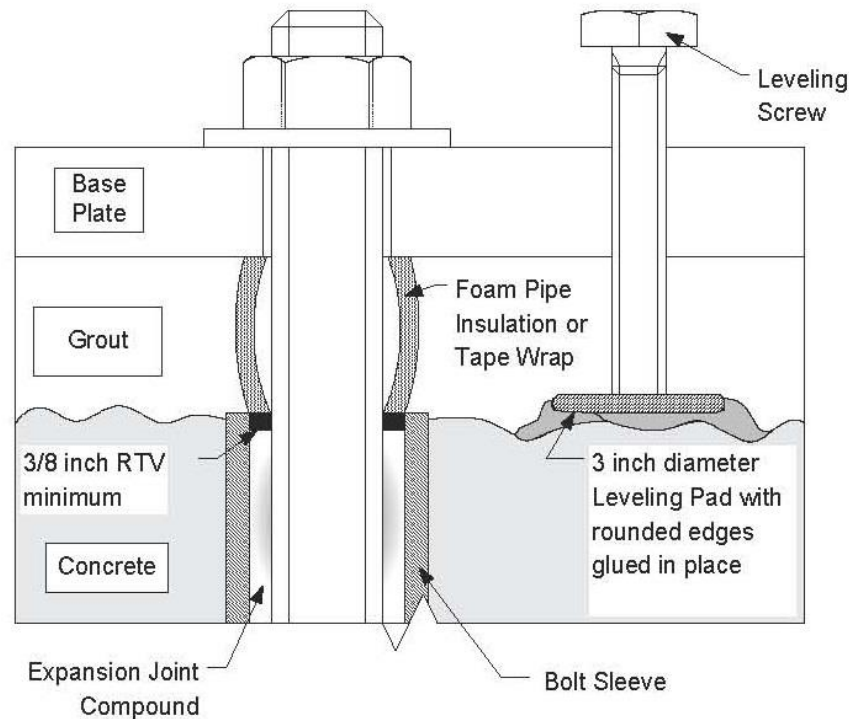
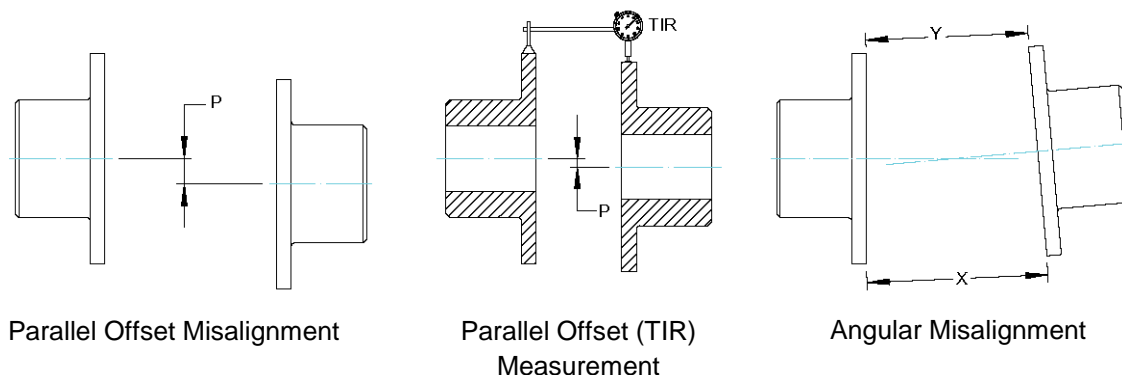

Figure 4. Grouting and Foundation Bolting
Figure 6. Coupling Alignment
Hydraulic Institute (HI) recommends a foundation capable of absorbing vibration at least five times the weight of the pumping unit and to form a permanent, rigid support for the base plate. Consequently, maintaining the pump to driver alignment is important for a flexible coupled unit, refer to Figure 6. A concrete foundation on a solid base is recommended. Use foundation bolts of the proper size embedded into the concrete. A pipe sleeve larger in diameter than the bolt should be used. This allows movement for final positioning of the bolts. Refer to Figure 4, Grouting and Foundation Bolting.
The base should be supported on either rectangular metal blocks with shims or on metal wedges having a small taper. The support pieces should be placed close to the foundation bolts. Refer to Figure 4, Grouting and Foundation Bolting. Place supports directly under the part of the base, which carries the greatest weight. Space the supports closely enough to provide uniform support of the base. Adjust the metal supports or wedges until the shaft is level. Check suction and discharge flanges of the pump by means of a level. Make corrections, as necessary, by adjusting the supports or wedges under the base.
2. The “Parallel Misalignment” value (P) is the offset between the centers of the hubs, as shown in Figure 6.
3. When the Parallel Offset is measured by rotating the hubs in unison with dial indicators as shown in Figure 6, the Total Indicator Reading (TIR) should be divided by (2) to calculate (P).
5. The “Angular Misalignment” value is the maximum difference between the measurements X and Y taken at opposite ends of the hub flanges, as shown in Figure 6.